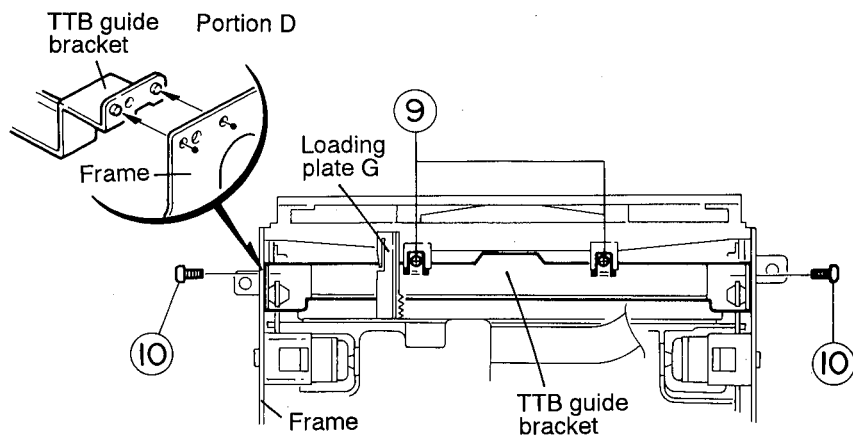

Fig. 4-18
8. From the portion D, remove two pawls (right and left) retaining the TTB guide bracket (See Fig. 4-18).
8. Attach the TTB guide bracket (See Fig. 4-18).